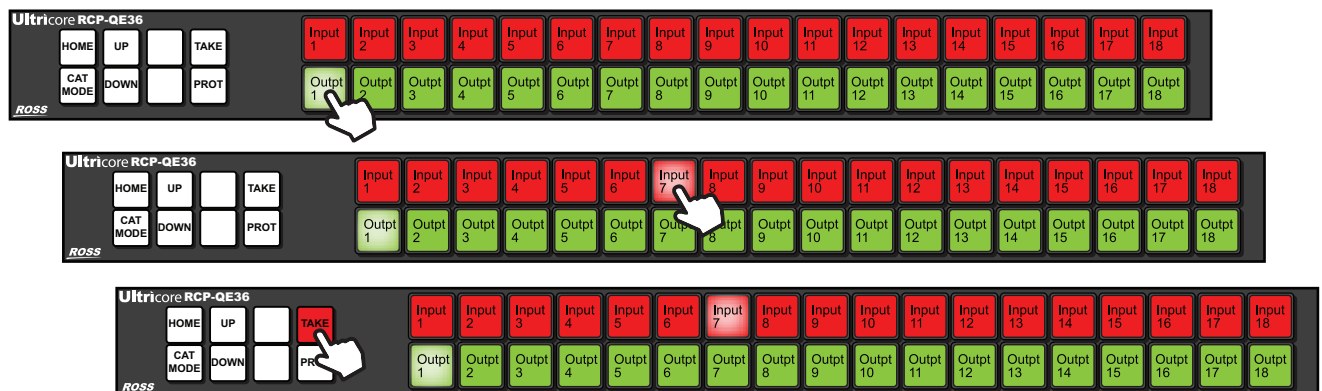

Figure 63 Selecting a Source Button — Camera 7 Selected
**Figure 63** illustrates a panel where **Outpt1** is the destination, **Input 7** is the source, and the **TAKE** is armed.